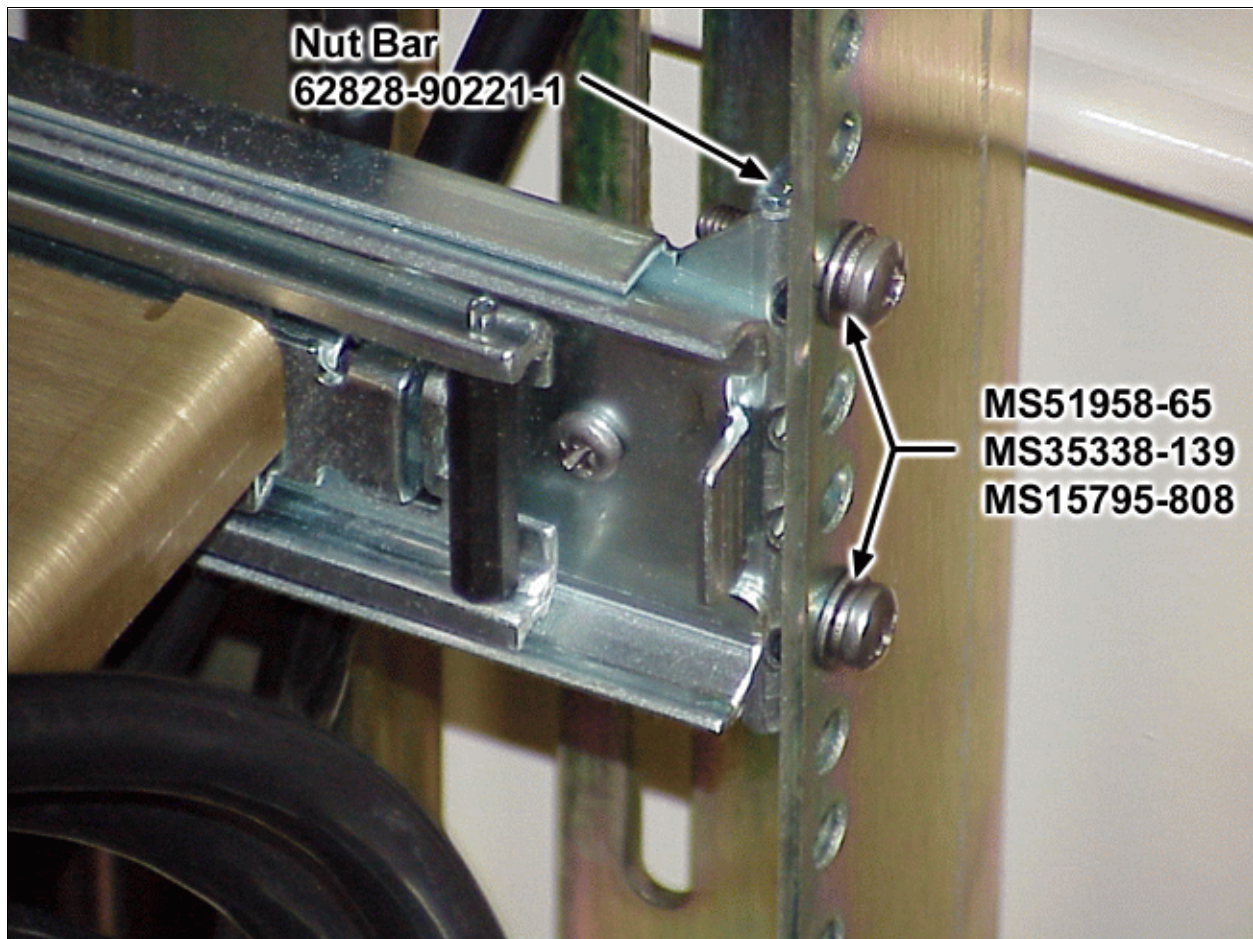

Figure 3 Chassis Slide Assembly Mounted in the ACU
12. Install the chassis slide assemblies into the ACU cabinet using nut bars (62828-90221-1) and appropriate hardware (MS51958-65, MS35338-138, and MS15795-808). Refer to figure 3.